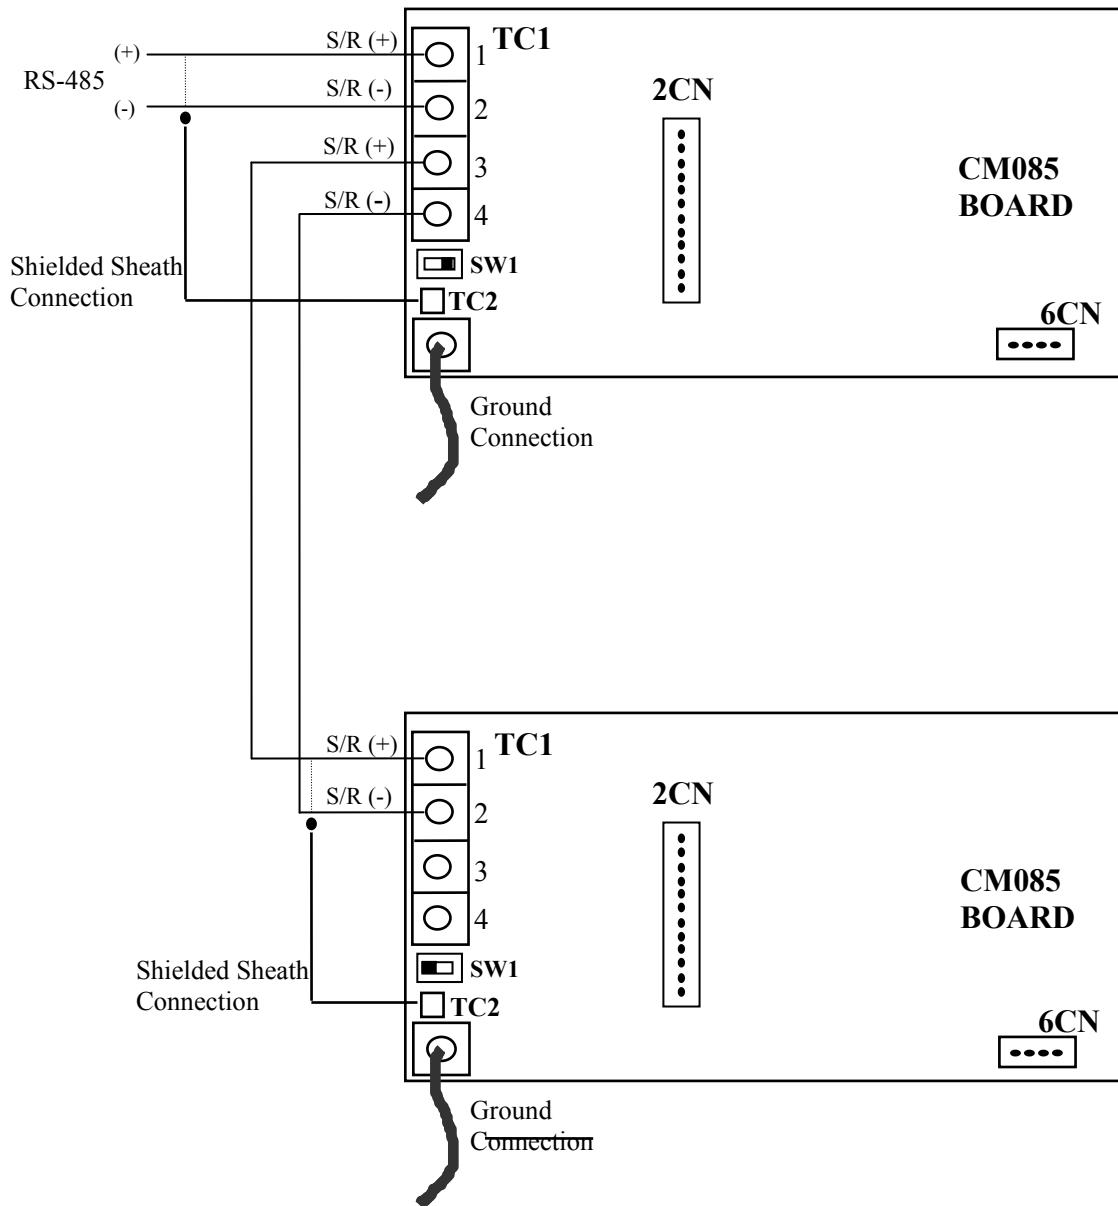

Figure 4-1. CM086 Connection Diagram
- Figure 4-1. CM086 Connection Diagram